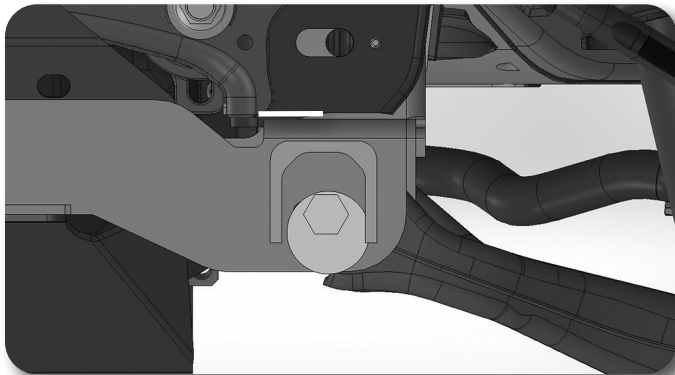

Figure 22
34. Make a line parallel with the bottom edge of the front lower control arm pocket as shown in Figure 22 & 23. Trim all the way to the inner edge of the lower control arm pocket.